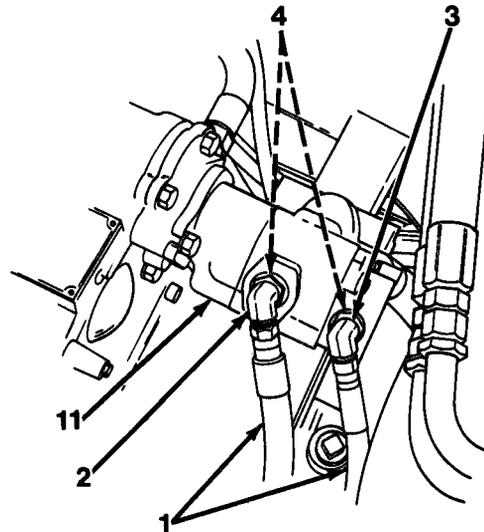

Figure 13-1
3. Disconnect two hoses (1) from elbows (2) and (3, Figure 13-1).
4. Remove elbows (2) and (3) and two O-rings (4) from pump (11).